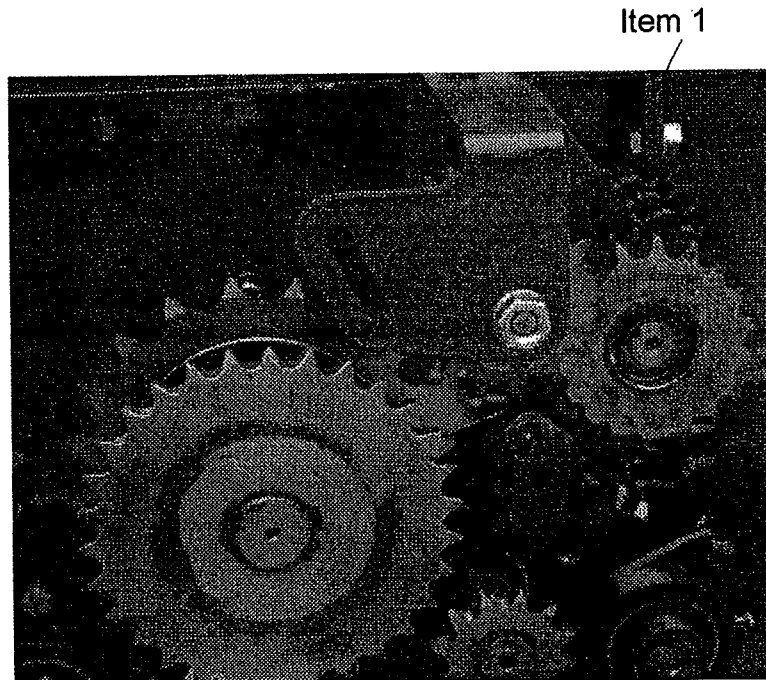

Fig 7.9
For some types of crop it is advantageous to reverse the direction of rotation of the haulm roller. This is achieved by replacing the gear drive (fig 7.9 item 1), with chain and sprockets.